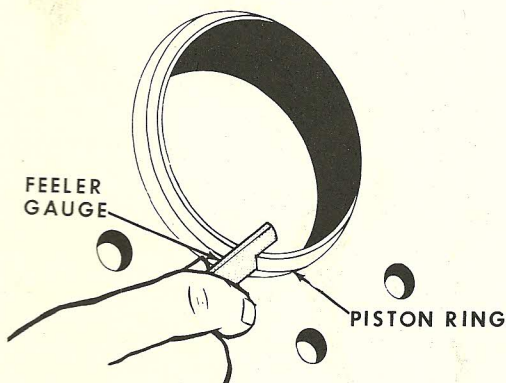

Figure M-31
2. Install each ring $\frac{3}{4}$ " into the cylinder bore and check the ring gap with a feeler gauge, Figure M-31. Refer to Specification Section for correct ring gap.